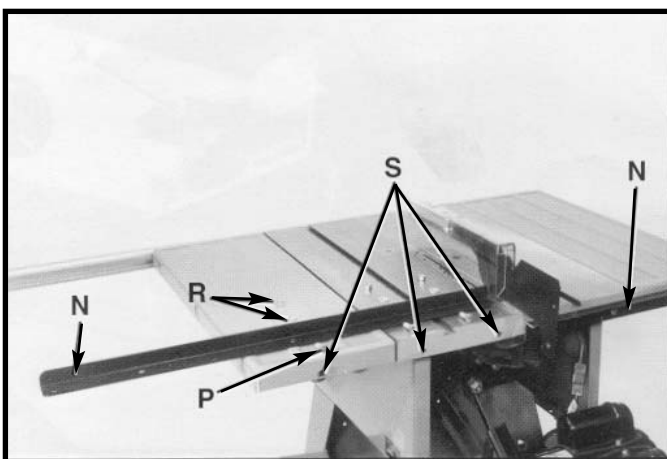
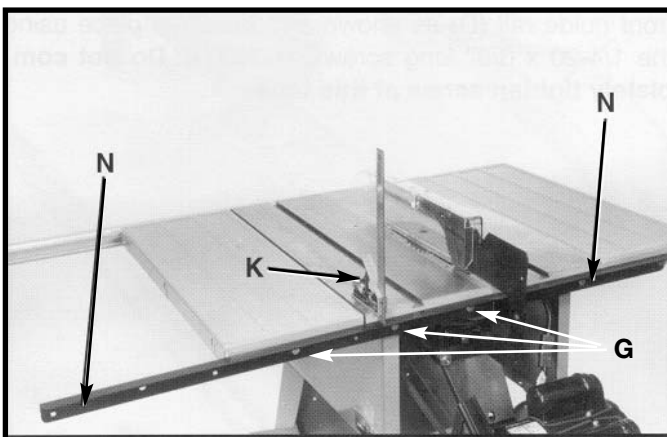

Fig. 47
Fig. 48
4. Slide the longer section of the front guide rail (D) Fig. 48 onto the carriage bolts from the other end until, the rails contact each other.
9. Align holes (S) Fig. 47 in saw table and extension wings with the six holes in the rear guide rails (N). **Fasten** rear guide rails to saw table and extension wings with six 3/8-16 x 1" hex head cap screws through holes, then add 3/8" flat washers, and 3/8" hex nuts, three of which are shown at (G) Fig. 48. The flat edge of rear guide rail must face upward. **NOTE:** Blade guard and splitter assembly has been positioned at the rear of the saw for this illustration.
10. Using a square (K) Fig. 48, make certain the rear guide rail (N) is 19/32" below the surface of the saw and extension tables. **Then tighten securely.**